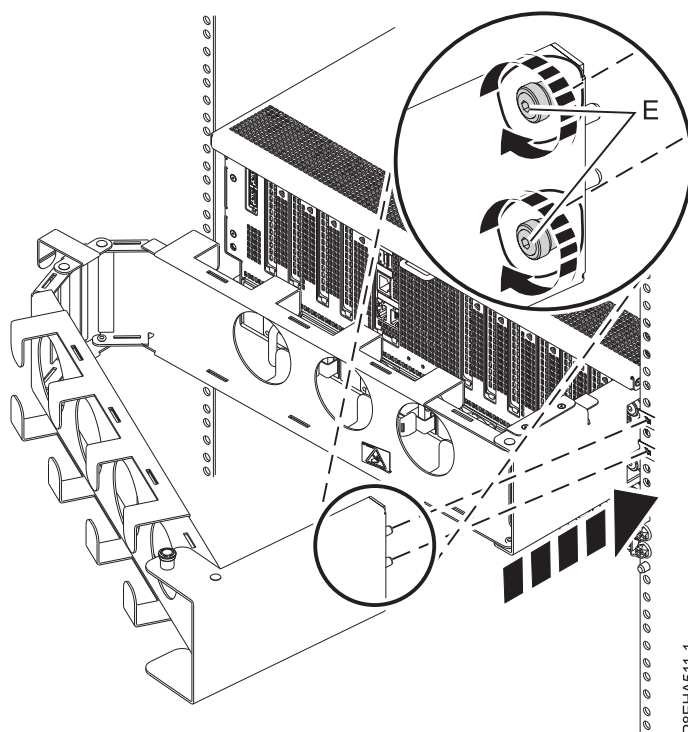

Figure 20. Attaching the outer plate to the rails
3. Attach the outer plate to the rails with two captive screws (E) as shown in Figure 20.